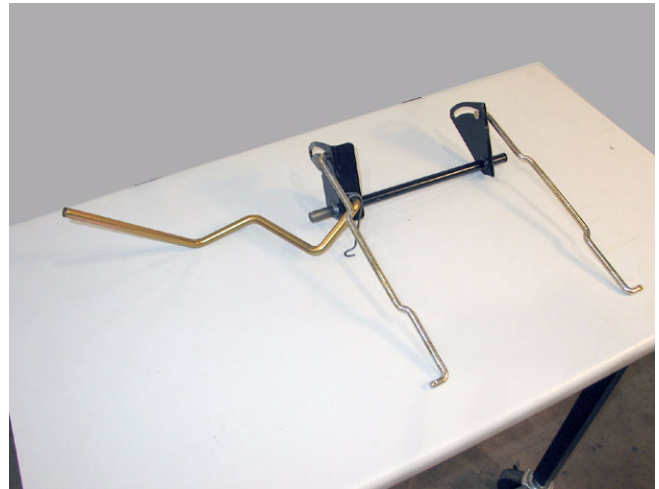

Figure 54
- 12.7. Inspect the deck lift shaft for wear, cracks and bends. See Figure 54.